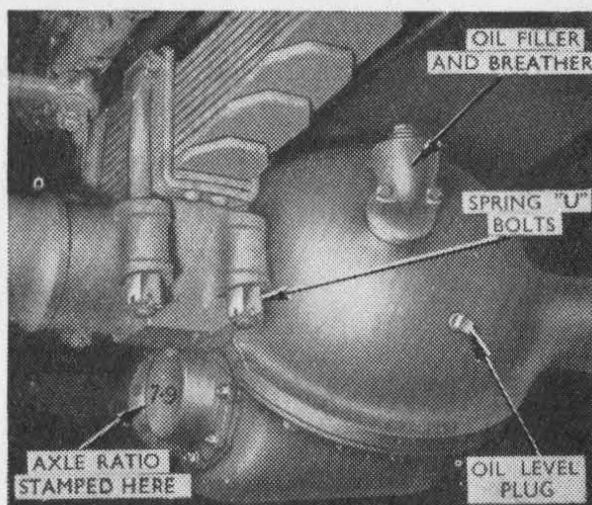

Fig. 28. Front Axle Oil Filler and Level Plug.
- (iii) Examine "U" bolts for tightness, look for signs of movement between spring and axles, and report (*Fig. 28*).
The casing should contain oil C.600 up to the level of the level plug hole (see Fig. 28). See that the breather on the filler plug is free from obstruction. (*Lubrication Chart Reference No. 32*).